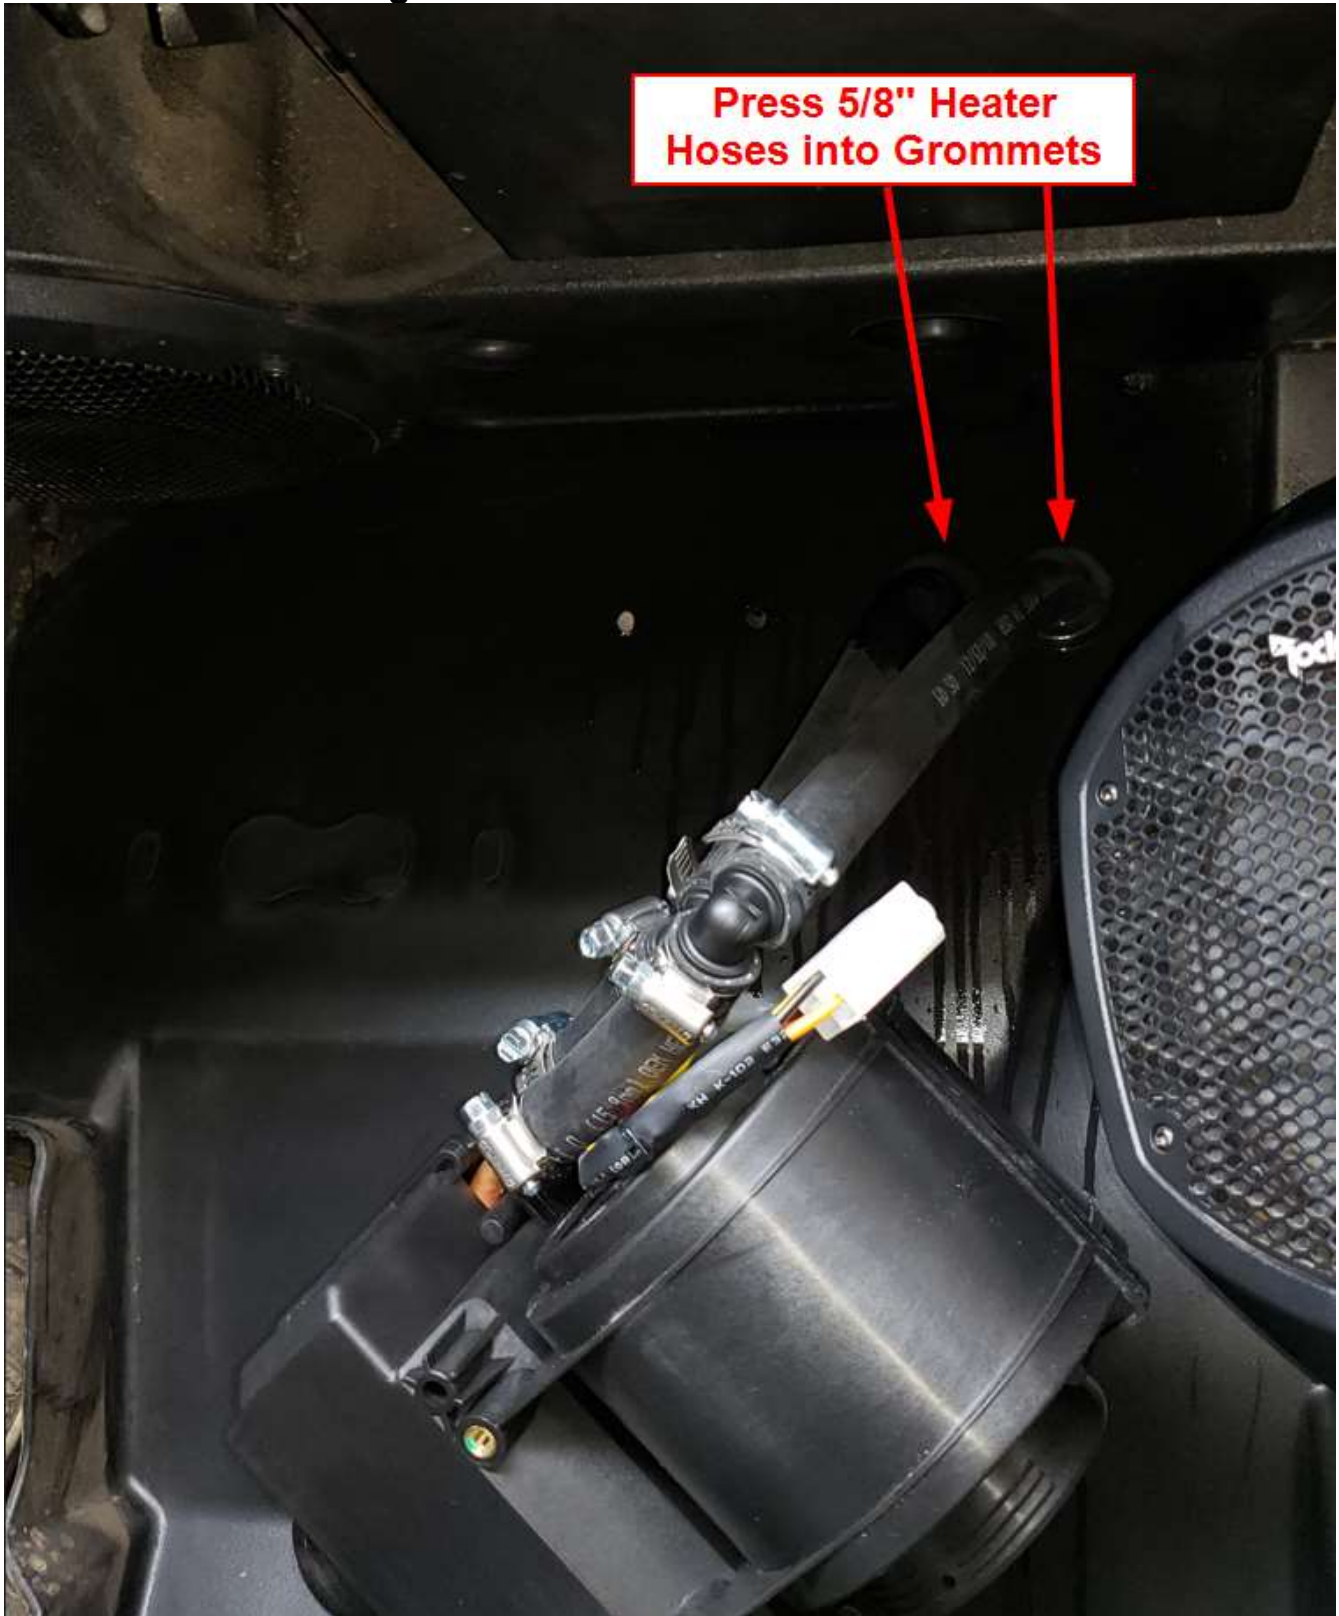

Figure 17
- g. Insert the (2) 12" pieces of 5/8" Heater Hose into the 1 ¼" Grommets as shown in Figure 17. Use soapy water or windex to lubricate the hose and Grommets for easier install. Press the hoses into the firewall until the (4) threaded studs on the Heater Bracket can be pushed through the Firewall.